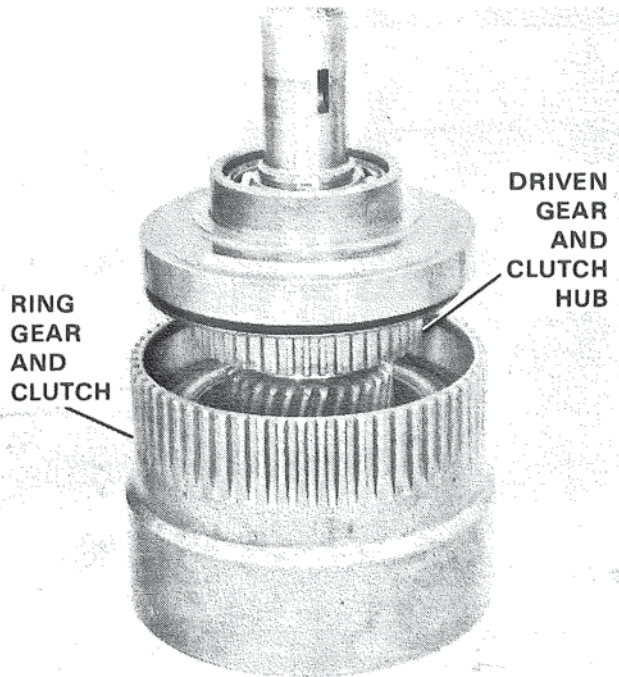
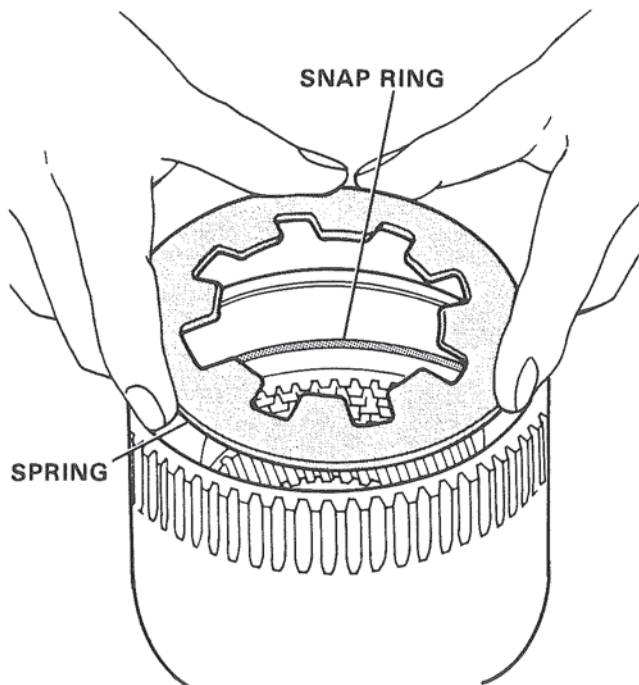

Figure 26. Removing Ring Gear and Clutch Assembly from Drive Gear.
Figure 27. Removing Clutch Spring.
3. While holding ring gear, tap with soft blunt tool on exposed face of forward clutch cylinder inside of ring gear. Forward clutch cylinder will move forward to disassemble out of front of ring gear. Figure 26. After removing the clutch spring and the clutch spring snap ring, all parts of the forward clutch can be disassembled. Figures 27, 28, 29, 30, and 31.